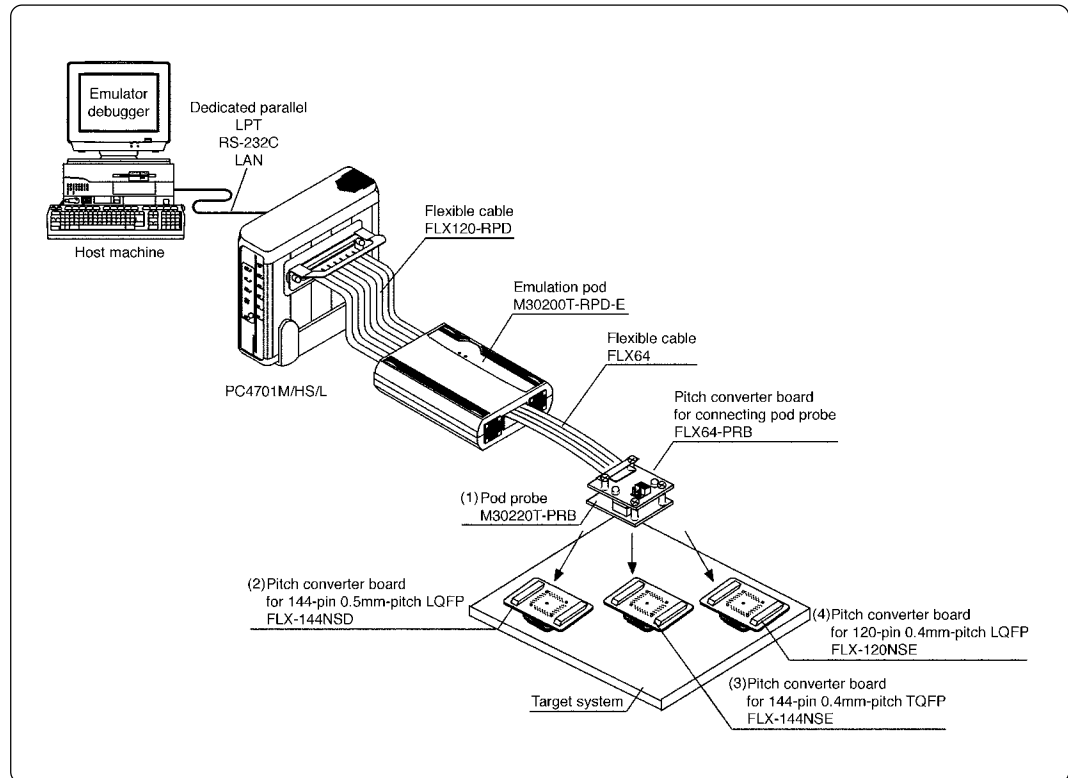

Figure 2.1 System configuration
Products (1) and (2) shown in Figure 2.1 are included with this product. Get (3) and (4) in Figure 2.1 separately.
(1) Pod probe (M30220T-PRB)